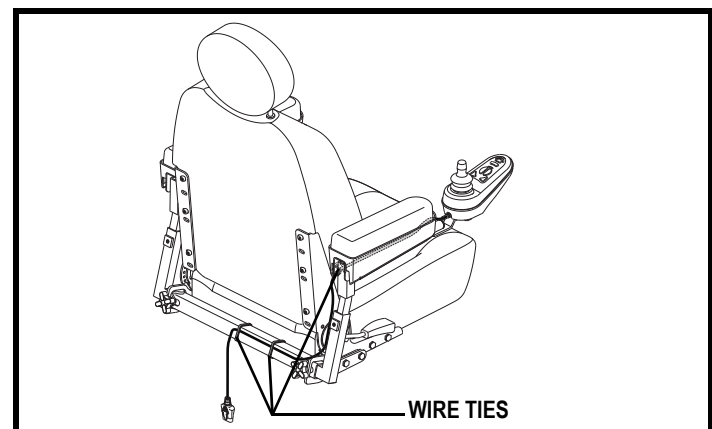

Figure 13. Controller Harness Routing
10. Secure the controller harness to the armrest receiver with one or more wire ties. See figure 13.